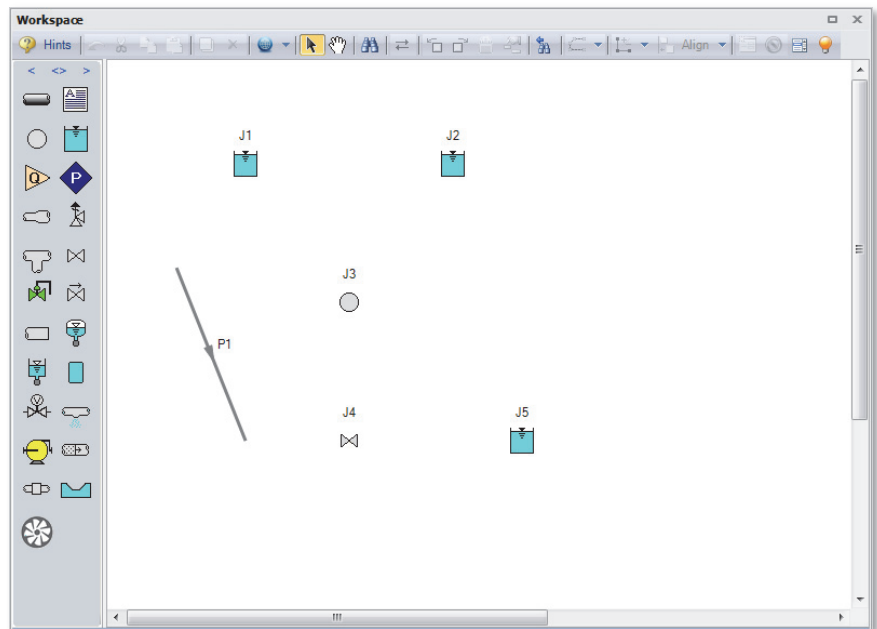

Figure 2.5c Valve closure model with first pipe drawn
- **To create a pipe,** click the Pipe Drawing Tool icon on the Toolbox. The pointer will change to a crosshair when you move it over the Workspace. Draw a pipe below the junctions, similar to that shown in Figure 2.5c.